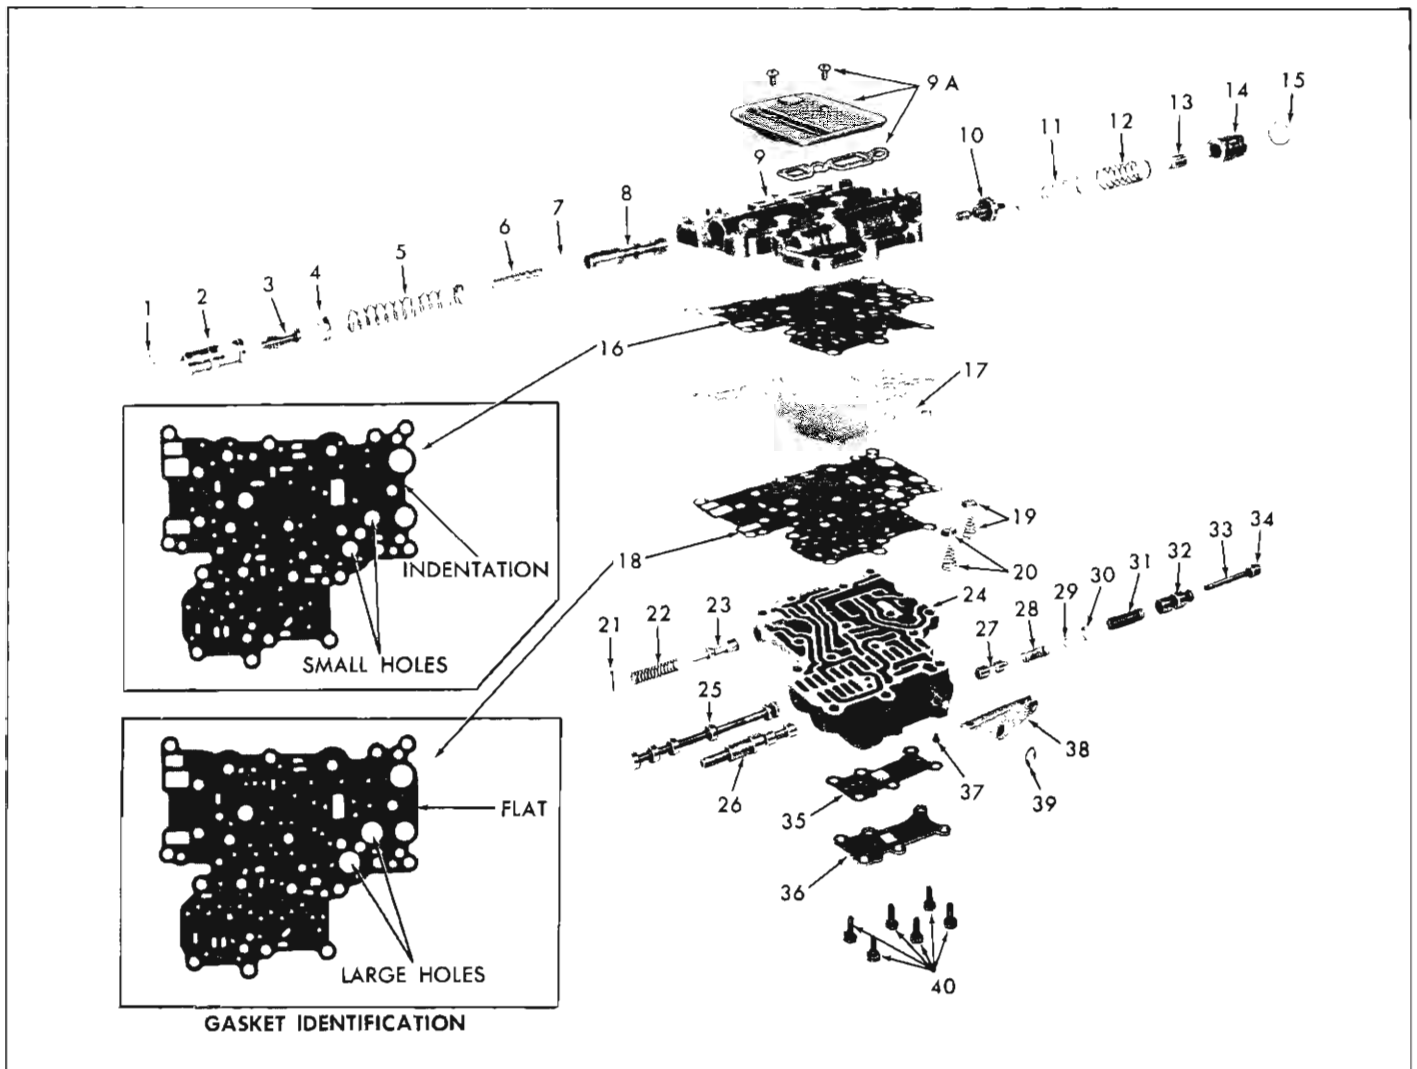

Fig. 32—Valve Body - Exploded View
1. Replace valve components in the proper bores, reversing the disassembly procedures given above and checking Figure 32, if necessary.
**NOTE:** See Figure 32 for upper and lower valve body gasket identification.